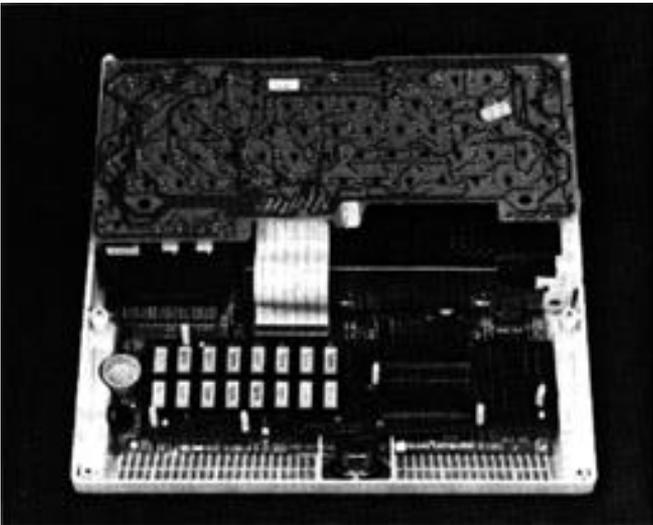

FIGURE 2.14
2. Reinsert the speaker jack. Place it through the round bole in the MultiRam C Card and push it over the two exposed pins. The //C should now look like Figure 2.14.